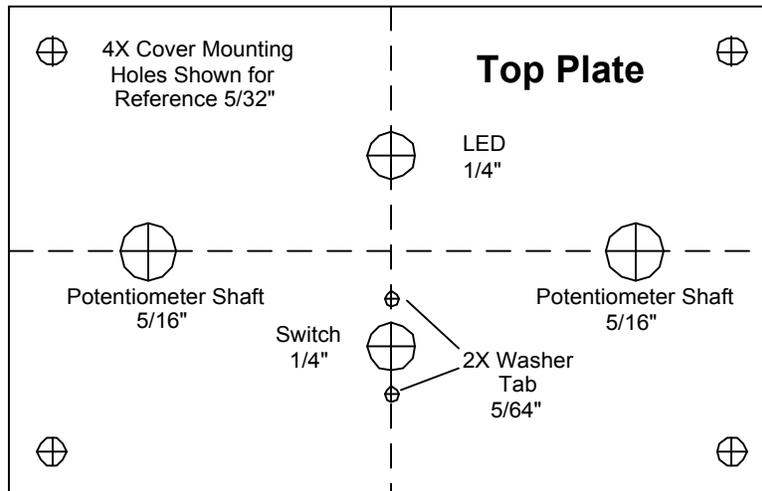

Figure 5.11 Cover Drill Templates
5.3.2.1.1 Drill Template - the drill template for the cover plate is shown in figure 5.11 below. A copy of this template is provided with the kit. This template will be taped to the blue protective plastic on the top of the blank aluminum plate supplied with the enclosure. The four mounting holes are already drilled in the cover plate, and the template should be aligned over these holes. Once it is aligned, secure the template in place with clear tape. Use a sharp, pointed tool like an awl, a small center punch, or the tip of the exacto knife blade to mark the center of each hole to be drilled. Drill a 1/16" pilot hole for all hole positions. Once the pilot holes are drilled, remove the template and drill the actual hole size as shown below. Clean the rims of the holes by hand, using a larger drill bit or a counter sink bit to clean the edges. Once the holes are drilled and cleaned, remove the blue plastic from the top of the plate.